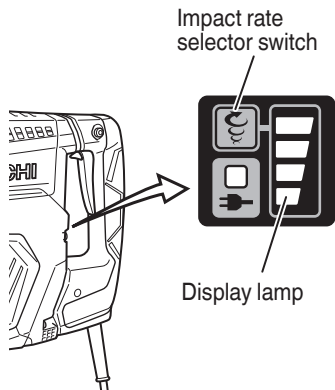

Fig. 11
11. Regulating the number of impact rate hammering (Fig. 11)